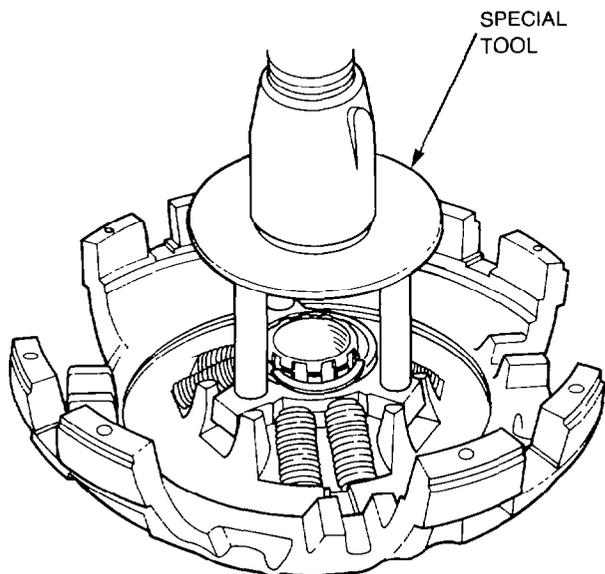

Figure 158 — Removing Half-ring Locking Washers
- g. Position the fabricated tool over the spring retainer, then compress the springs until the drive lugs bottom on the clutch housing. Remove the wooden blocks from between the release bearing and the clutch housing, then remove the half-ring locking washers (see Fig. 158).